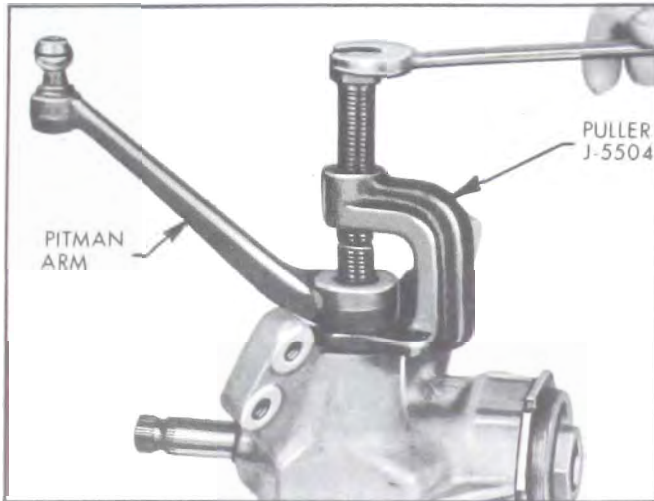

Figure 8-14—Removing Pitman Arm
5. If necessary remove pitman arm from pitman shaft, using Puller J-5504. See Figure 8-14.